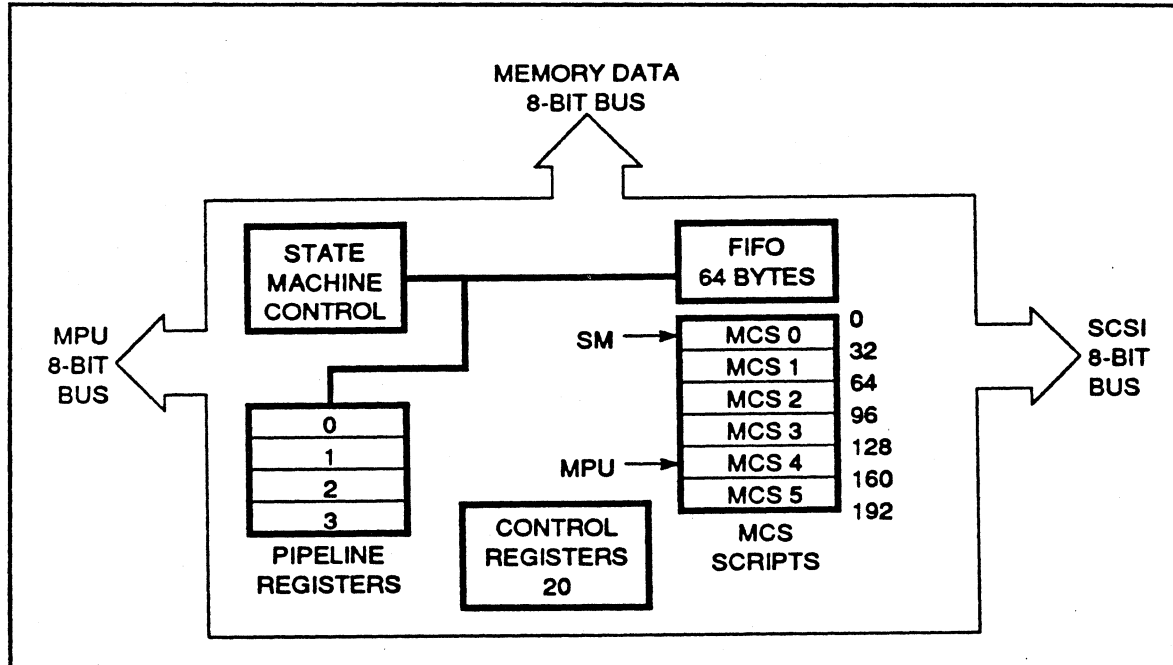

Figure 1-2. Block Diagram of the 82C5086
The MCS is a valuable tool for tailoring the 82C5086 to the needs of particular applications. It can be used to store blocks of frequently used commands, messages, and status. For instance, if the 82C5086 is used as a host adapter operating as an initiator in a system configuration with an 80286 host MPU, firmware engineers might decide to use the MCS to store messages frequently sent by the initiator. This improves system performance because the information can be accessed as a block, and does not have to be retrieved from system memory. Because the 82C5086 provides two MCS address pointers the MPU can be processing one MCS segment, while the 82C5086 state machine (SM) is simultaneously processing another 32-byte MCS segment. Figure 1-2 shows a simplified block diagram of the chip's functions.